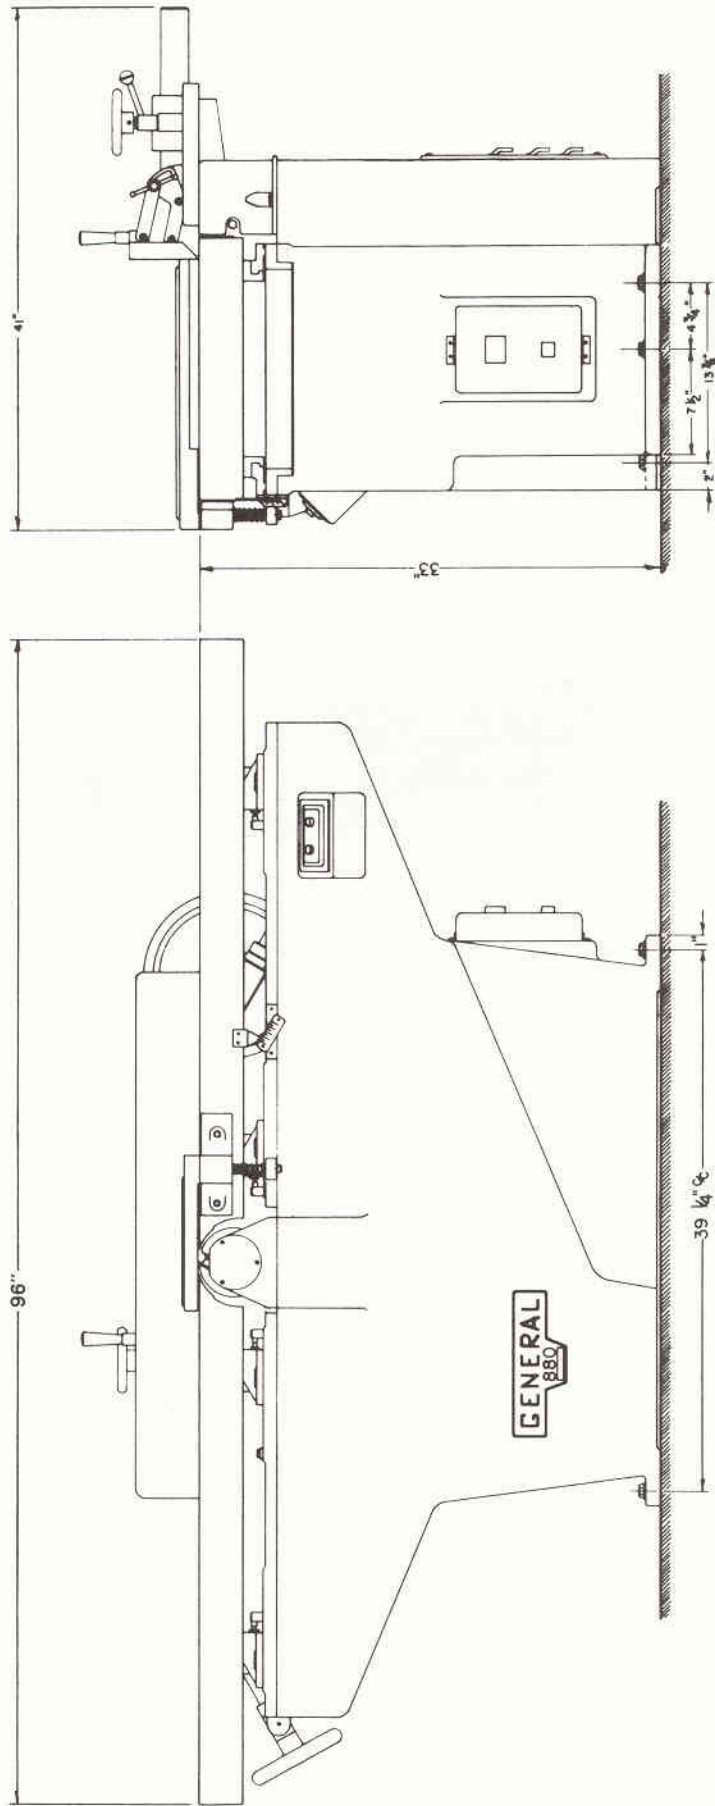

Fig. 1
**Foundation** - If the floor consists 4" to 6" concrete, no special foundation is required to install the machine. A good wooden base is also satisfactory. Layout of Fig. 1 gives the spacing of the foundation bolts.